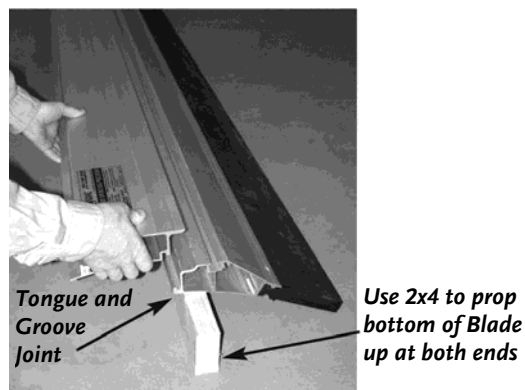

Figure 9
- Turn bottom half of blade over and set it on wood blocks, one at each end as shown (**Figure 9**). Take top half and connect tongue and groove joint with bottom half. Slide top half until centered with bottom half of blade.